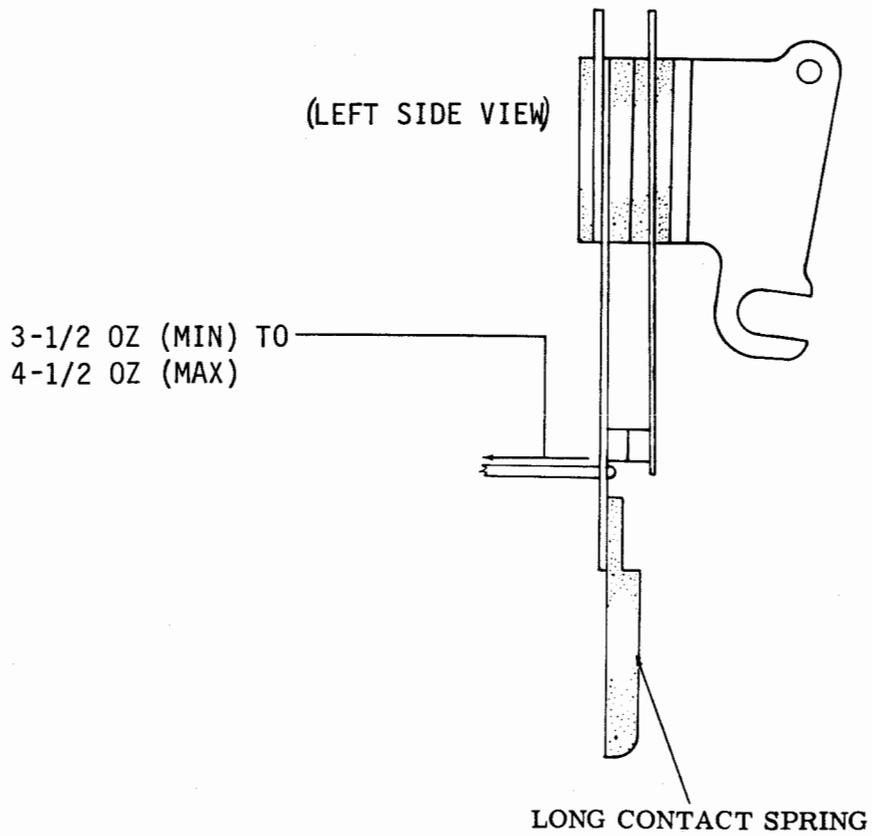

Figure 6-189. Transmitter Control Contact Spring
(23) Transmitter Control Contact Spring. Adjust transmitter control contact springs as follows:
- (a) Refer to figure 6-189.